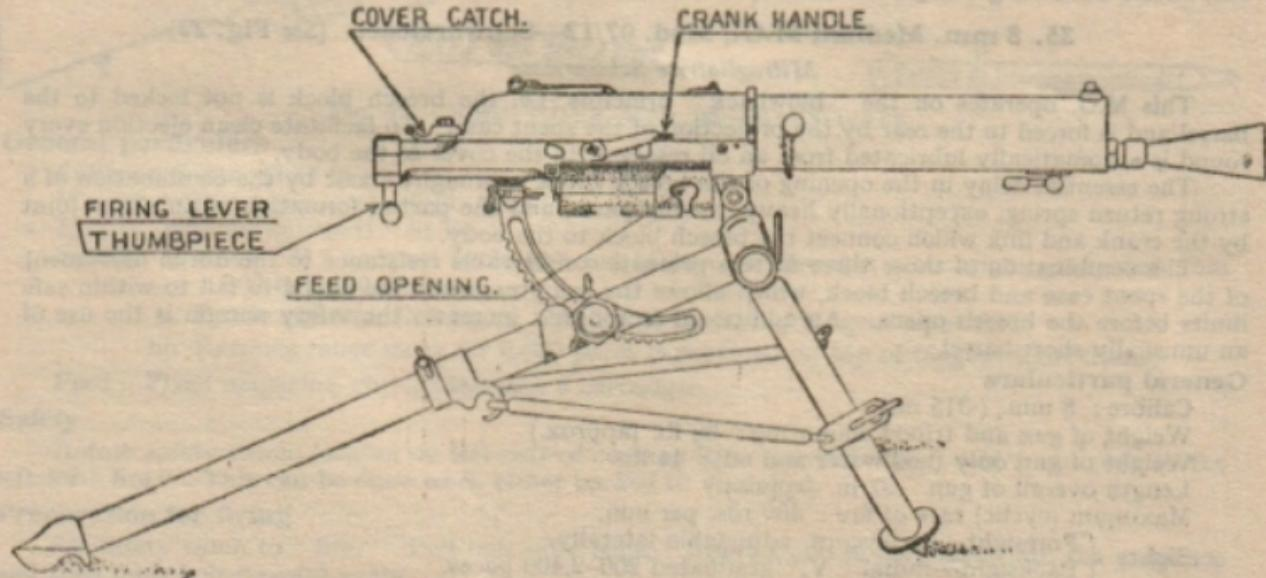

FIG. 22.—8 MM. M.G. MOD. 07/12—SCHWARZLOSE.
35. 8 mm. Medium M.G., Mod. 07/12—Schwarzlose. (See Fig. 22)